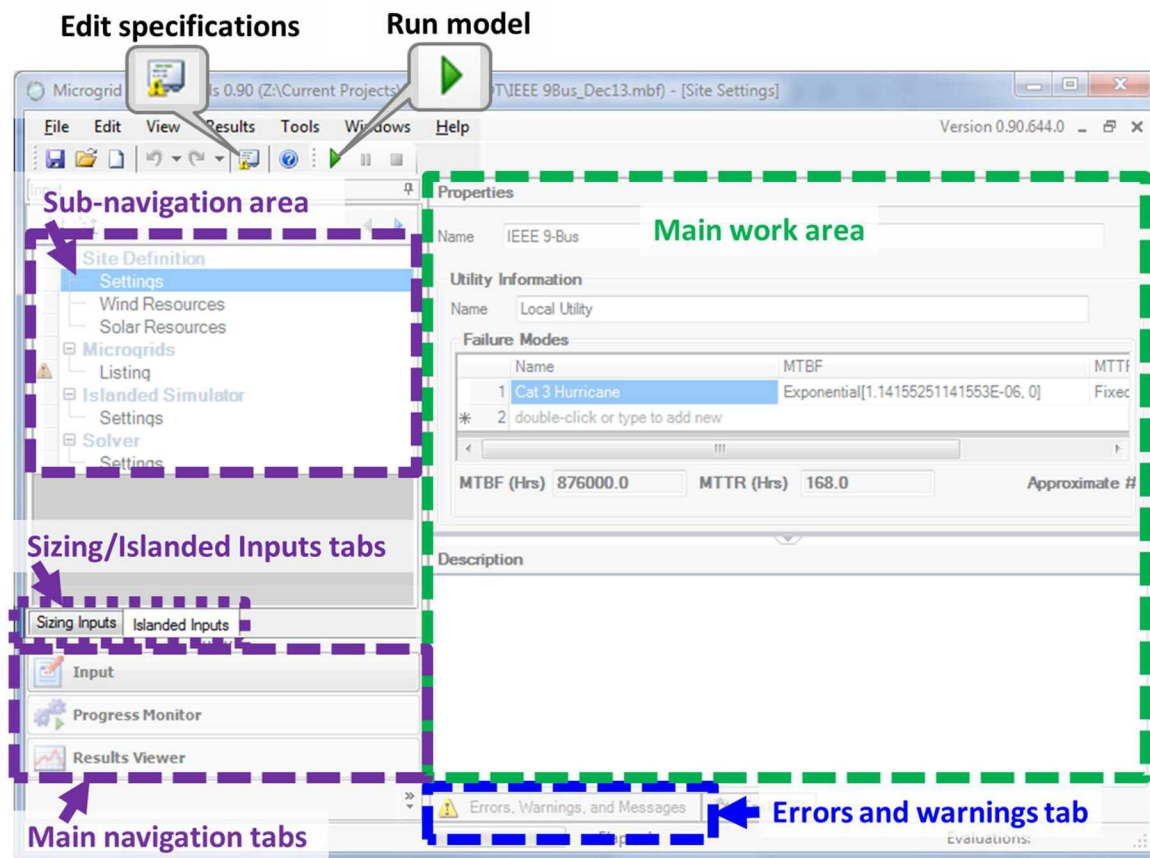

Figure 12. Islanded mode main screen overview.
To access the Islanded Mode input fields, click the Islanded Inputs tab directly above the Input button (Figure 12). This will provide access to the Islanded Inputs pages.
- The **page navigation** area is located on the left side of the page (highlighted in purple in Figure 12).
- The **main work area** (highlighted in green Figure 12) takes up the majority of the screen. This is where elements (components of a microgrid) are added and modified.
The equipment specifications are accessed via a button on the toolbar (Figure 12). Equipment specifications should be entered into MDT *before* creating your Microgrid Options. Entering equipment specifications first will make microgrid creation go much faster. The different types of equipment and required information are listed below.